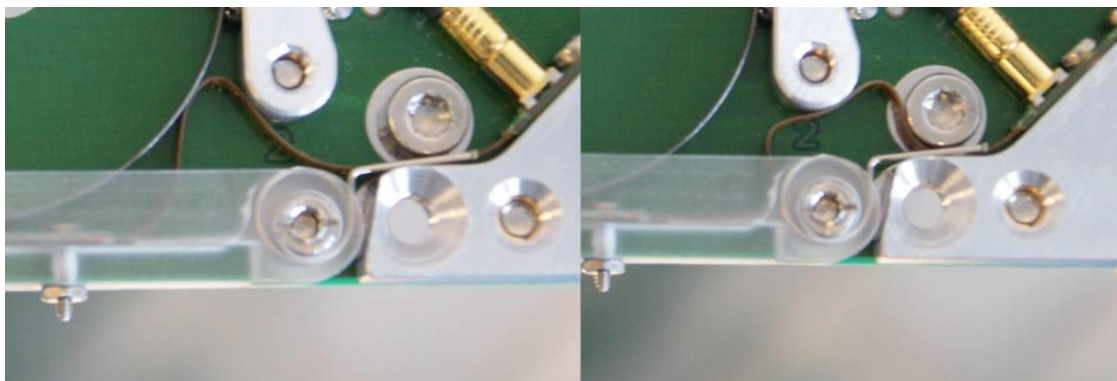

Figure 5-1 Left: improper routing of flex-rigid PCB; right: proper routing of flex-rigid PCB
6. Confirm the proper routing of the flex-rigid PCB (Figure 5-1).
11. Inspect the burn wire, the pull spring and the flex-rigid PCB (Figure 5-1) before closing the top panel.